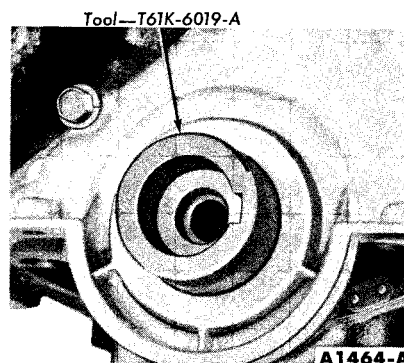

FIG. 53—Cylinder Front Cover Alignment
2. Clean the cylinder front cover and the gasket surface of the cylinder block. Apply sealer to a new cylinder front cover gasket and position the gasket on the cylinder front cover. Install the cylinder front cover using the tool shown in Fig. 53 (the crankcase ventilation tube bracket is retained by one cylinder front cover bolt). Torque the retaining bolts to 6-9 ft-lbs. Install the crankshaft pulley.